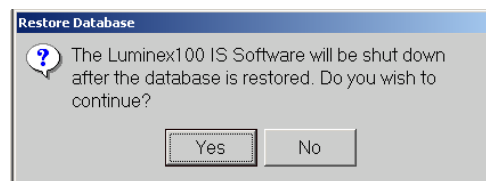

Figure 5-104 Restore Database Dialog Box
1. On the **Tools** menu, click **Database Restore**. The **Restore Database** dialog box warns you that the Luminex 100 IS software will shut down after restoring the database. See Figure 5-104.